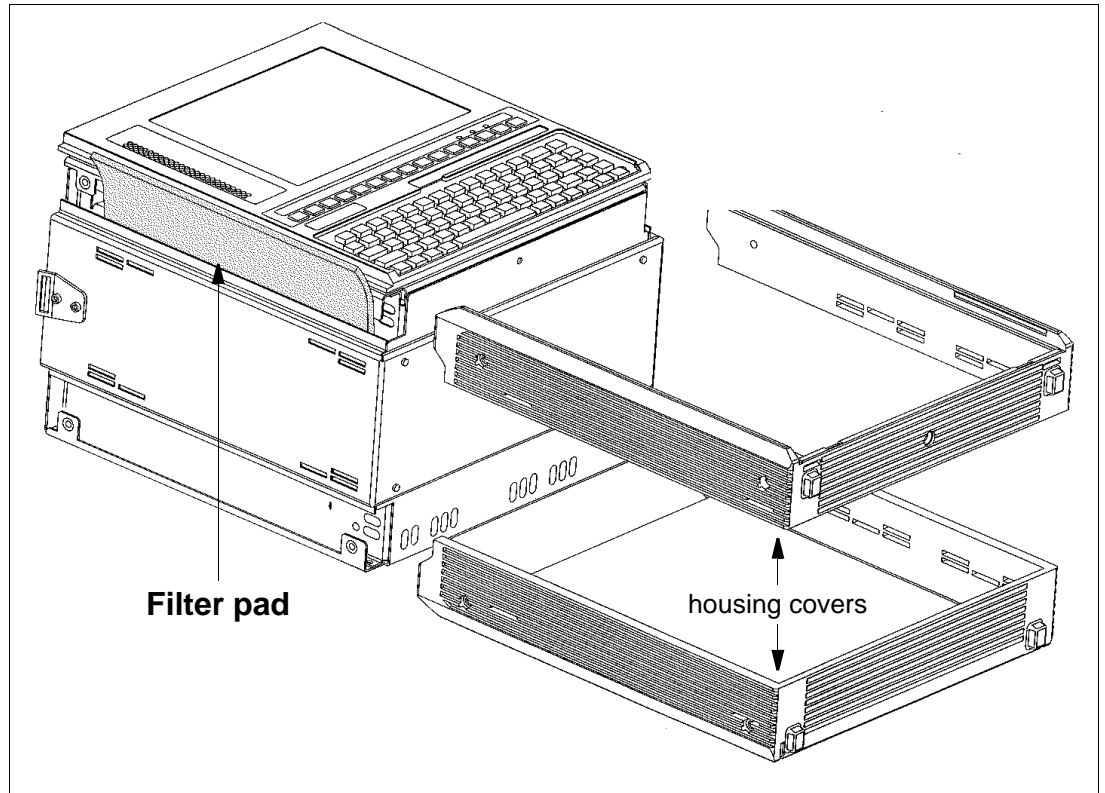

Fig. M-4 Replacing the ANT-20SE filter pad
3. Remove the housing covers of the ANT-20SE (see Fig. M-4).